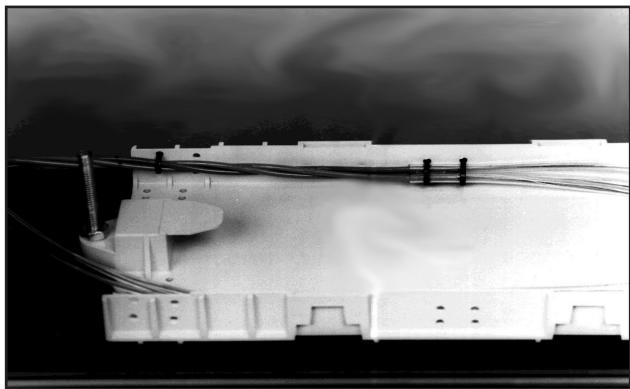

FIGURE 3- SECURE FIBERS TO TRANSITION ASSEMBLY
- 6.09** Using two of the tie wraps supplied with the Splice Tray(s), secure the fibers to the back wall of the Transition Assembly. (Figure 3).